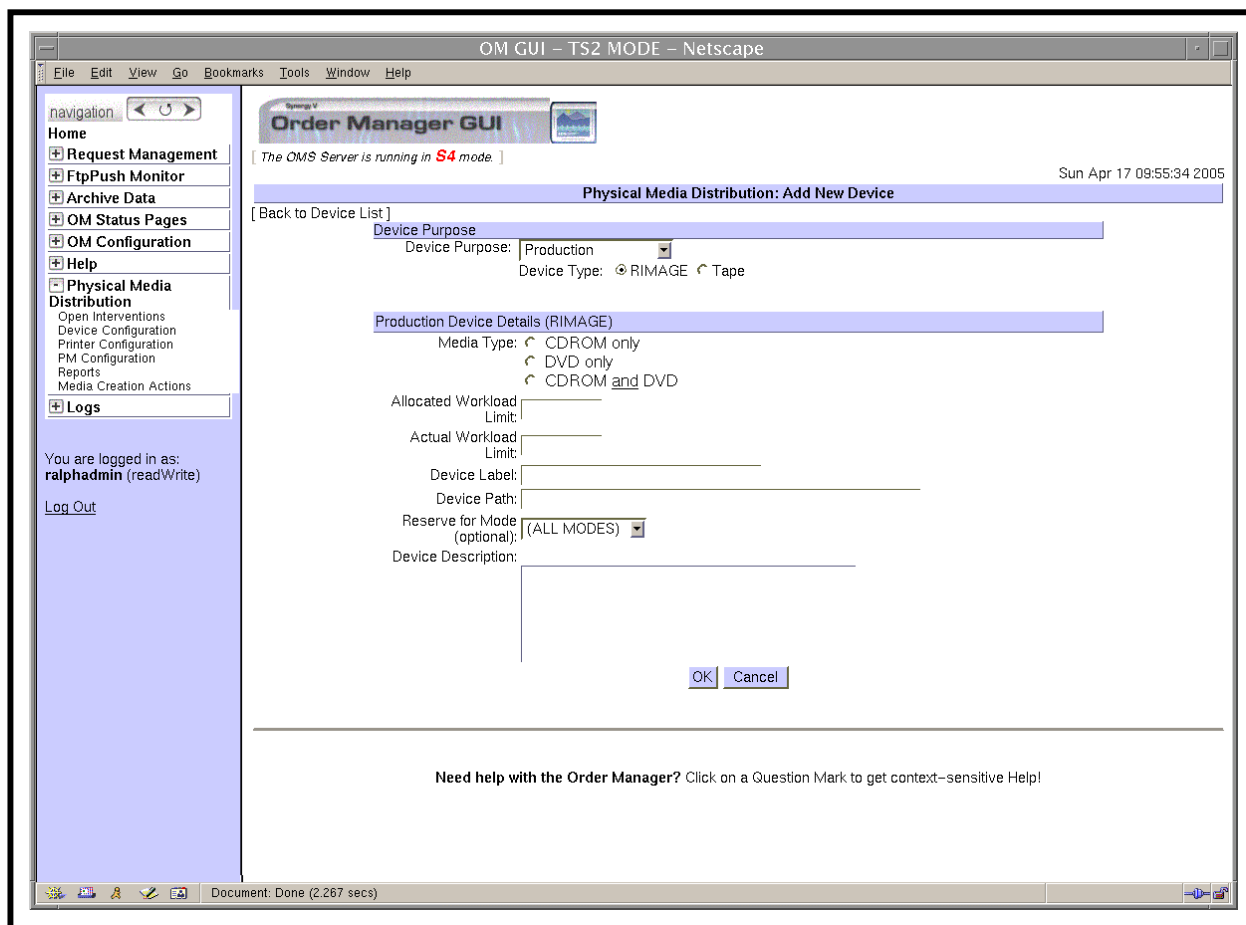
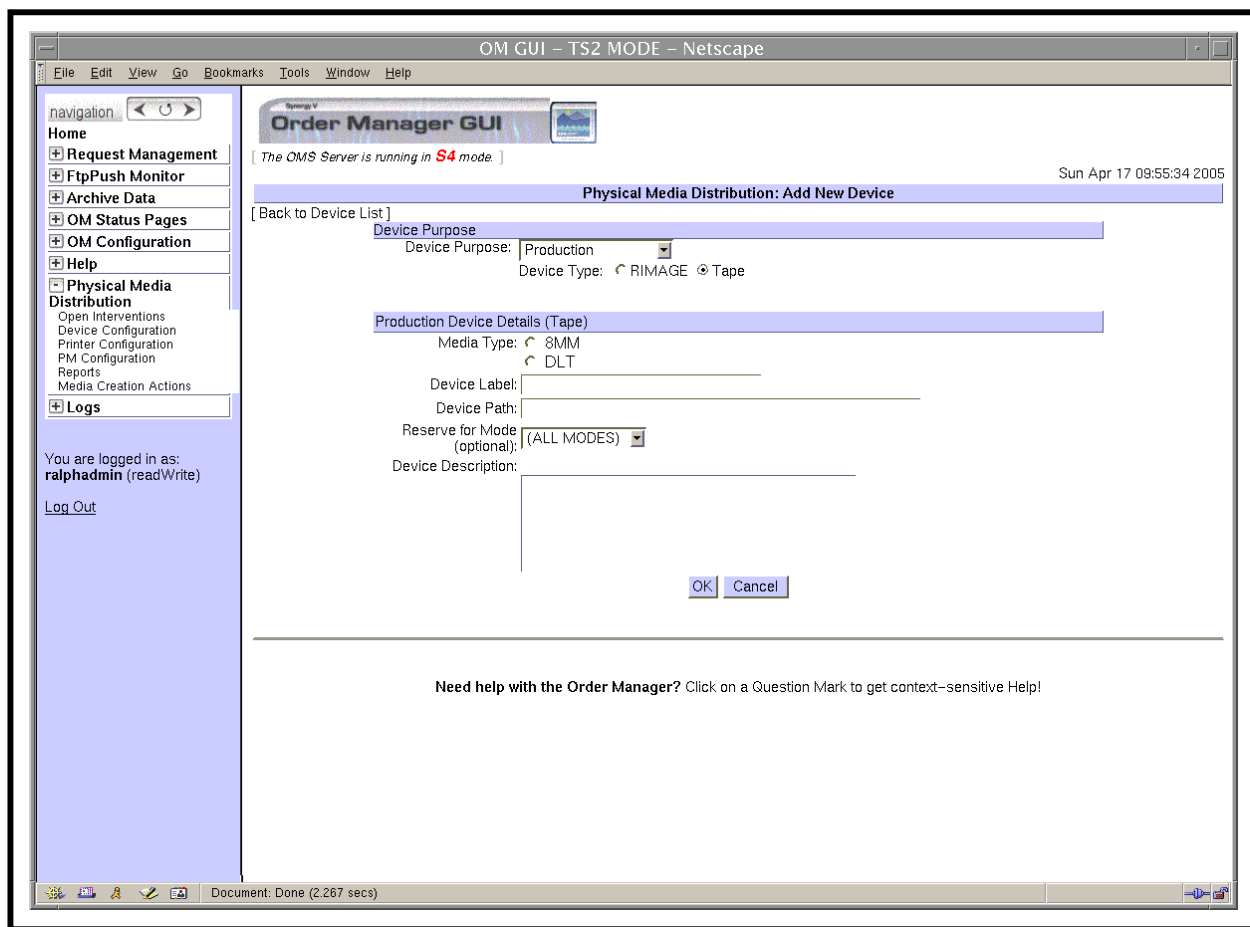

Figure 82. Add New Device Page – Production (Rimage)
Figure 83. Add New Device Page – Production (Tape)
- The corresponding **Device Details** page (Figure 82 or Figure 83) is displayed.